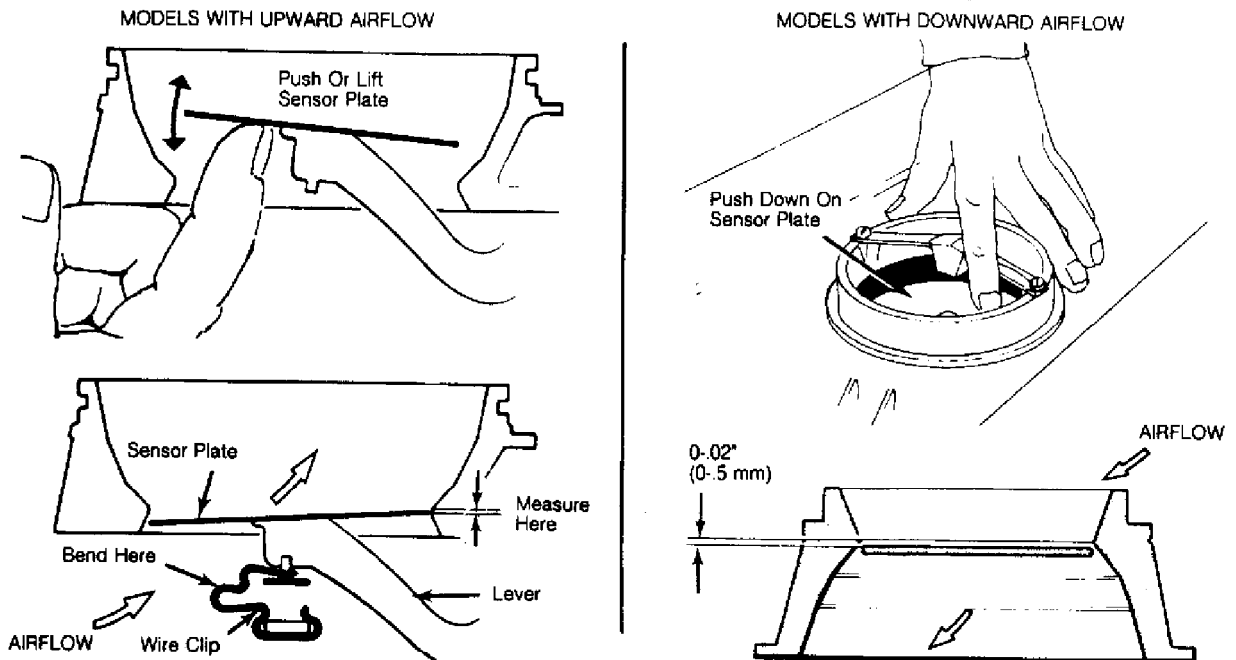

Fig. 7: Checking Sensor Plate Operation & Adjustment
2) Lift sensor plate slowly with magnet or pliers. Use care to avoid damage to sensor plate or venturi surfaces. Resistance due to control plunger pressure should be felt through entire lift. Release plate and allow it to return to rest position slowly. Lever and control plunger should follow. See Fig. 7.
6) Check airflow sensor plate height adjustment. Plate should be even with bottom rim or .02" (.5 mm) lower. If not, bend spring clip or reposition stop pin (tap lightly with punch) to set plate height. See Fig. 7.